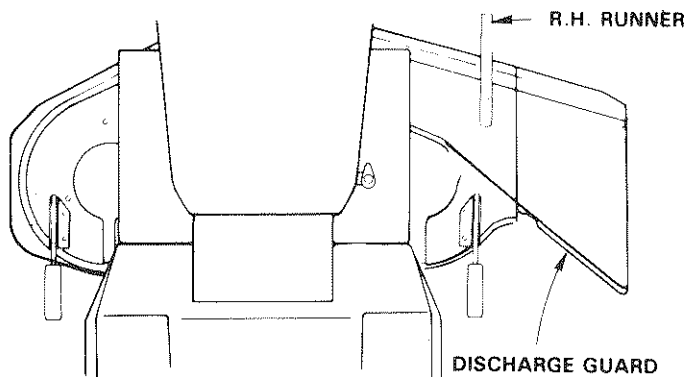

FIGURE 17
- Use the runner on the R.H. side as a guide; the blade cuts approximately an inch outside the runner (Fig. 17).